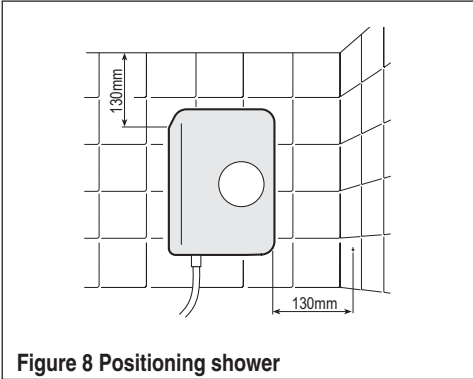

Figure 8 Positioning shower
5.5 You should leave at least 130mm around the shower heater for fitting the front cover in place and for fitting the cover-fixing screws - see Fig. 8.